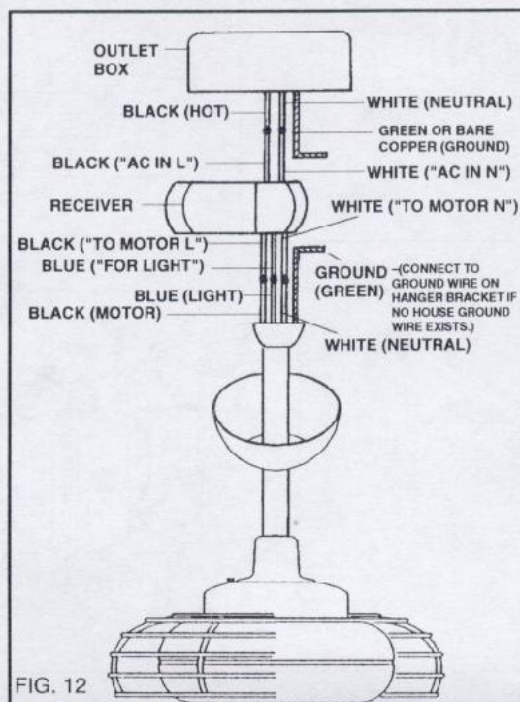

FIG. 12
**Step 2.** (Fig. 12). Motor to Receiver Electrical Connections: Connect the Black wire from the fan to the Black wire marked "To Motor L" from the receiver. Connect the White Wire from the fan to the White wire marked "To Motor N" from the receiver. Connect the Blue wire from the fan to the Blue wire marked "For Light" from the receiver. Secure wire connections with the plastic wire nuts provided.
**Step 3.** (Fig. 12). Receiver to House Supply Wires Electrical Connections: Connect the Black (hot) wire from the ceiling to the Black wire marked "AC in L" from the Receiver. Connect the White (neutral) wire from the ceiling to the White wire marked "AC in N" from the Receiver. Secure wire connections with the plastic wire nuts provided.
**Step 4.** (Fig. 12). If your outlet has a ground wire (Green or Bare Copper) connect the fan ground wires from the Hanger Ball and Mounting Bracket to it; otherwise, connect the Hanger Ball ground wire directly to the ground wire from the Mounting Bracket.